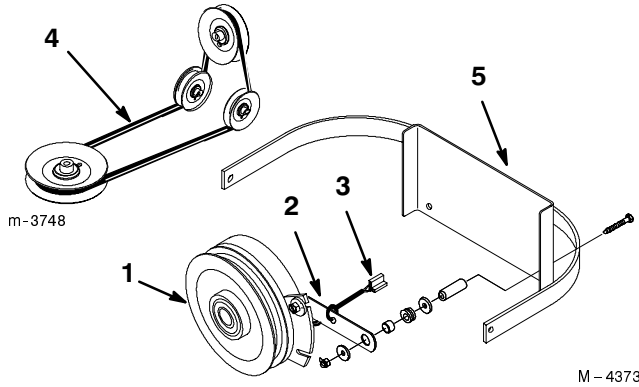

Figure 47
2. Remove the clutch retaining strap from machine frame and unplug clutch terminal from wire harness (Fig. 47).
7. Install clutch retaining strap and plug clutch terminal into main wire harness (Fig. 47).